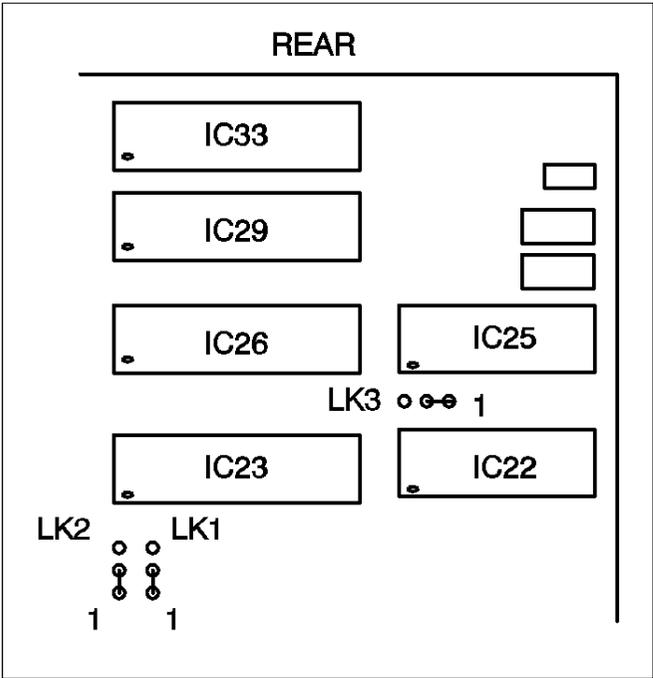

Figure 1.
4. The link between 2 and 3 of LK3 must be removed with a soldering iron and a link made between pins 1 and 2 as shown in figure 1.
5. The link between 2 and 3 of LK1 must be removed with a soldering iron and a link made between pins 1 and 2 as shown in figure 1.